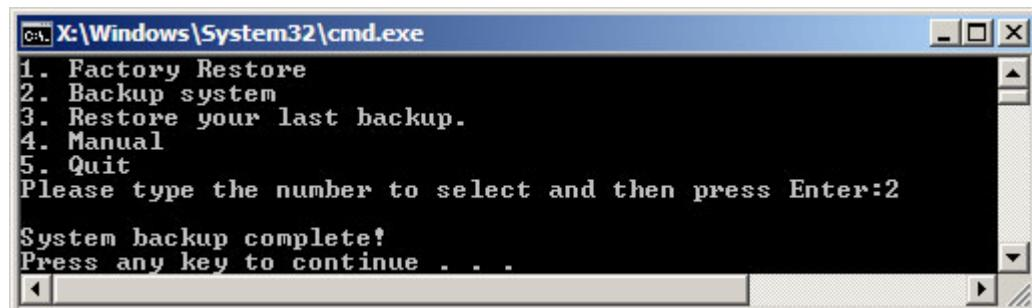

Figure B-30: System Backup Complete Window
**Step 3:** The screen is shown as in **Figure B-30** when system backup is completed.